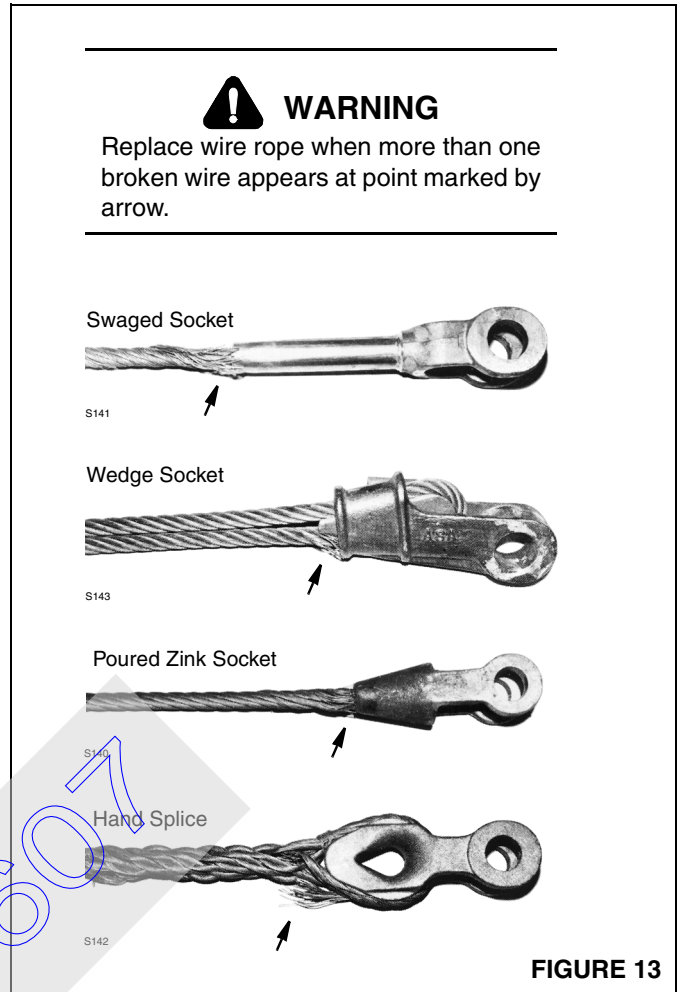

FIGURE 13
- Standing Ropes (pendants) — more than two broken wires in one lay length in sections beyond the end attachment, or more than one broken wire at the end attachment (see Figure 13).